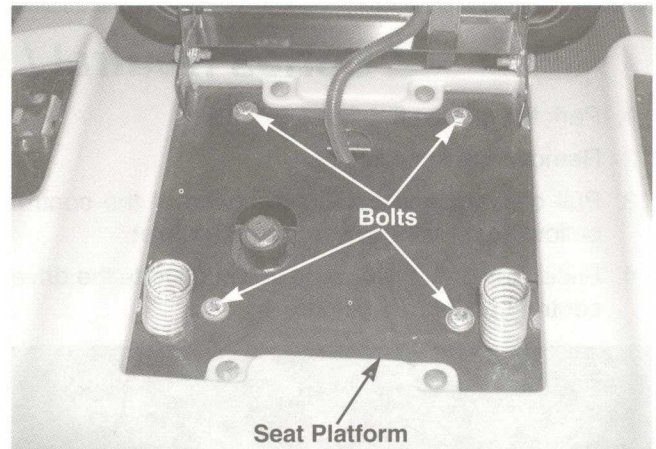

FIGURE 7.
14. Remove all four hex bolts securing the seat platform to the upper frame rails using a 9/16 socket. See figure 7.